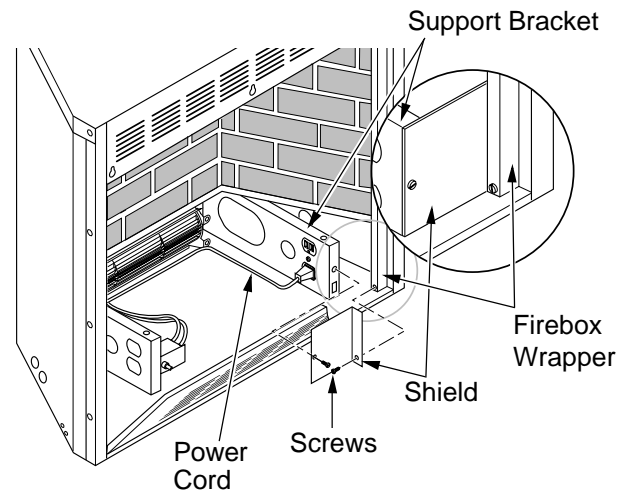

Figure 18 - Attaching Fireplace to Wall Studs
6. Install shield to end of right support bracket and behind the firebox wrapper with 2 screws provided (see Figure 18).